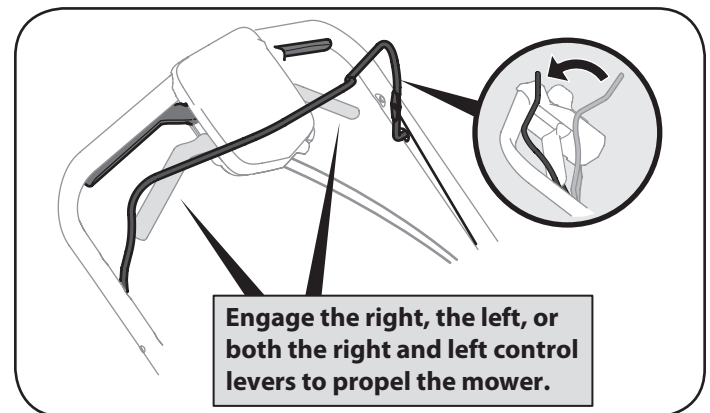

Figure 17
- a. Once the engine is running and while continuing to hold the blade control down, squeeze either (or both) drive controls against the upper handle to propel mower. See Figure 17.